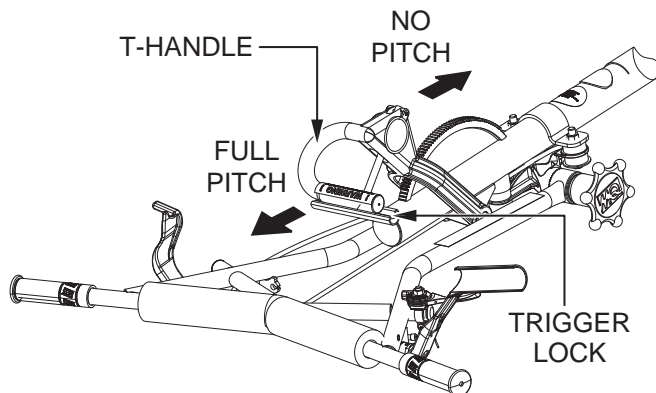

Figure 10. Blade Pitch Cable Adjustment (Quick Pitch™ Handle)
- For trowels equipped with a **Quick Pitch™** handle (QXHC), squeeze the trigger lock and push the T-handle towards the engine to release tension on the blade pitch cable. See Figure 10.